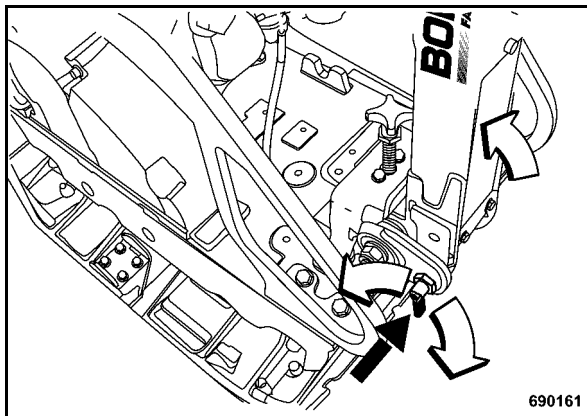

Fig. 37
- Set the steering rod (Fig. 37) to upright position.